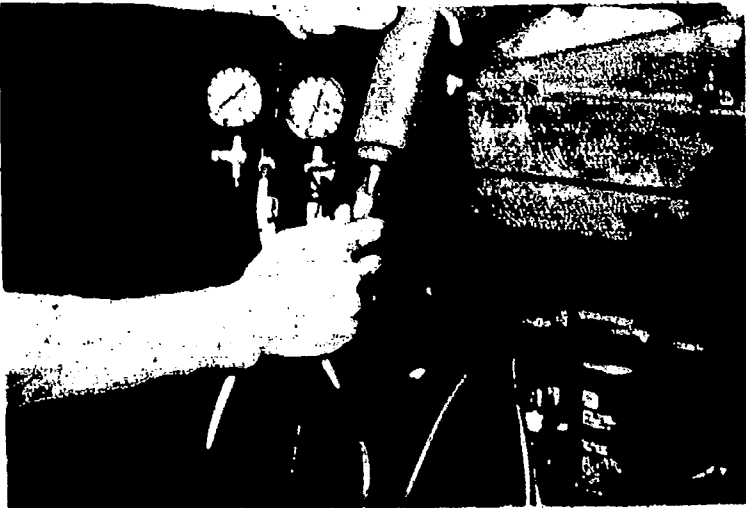

Fig. 73 — Add Oil Into Suction Test Hose
1. With compressor installed on machine, connect gauge manifold hoses to compressor test fittings (Fig. 73).
2. Add a measured amount of new oil into the suction test hose with a squeeze bottle (Fig. 73).